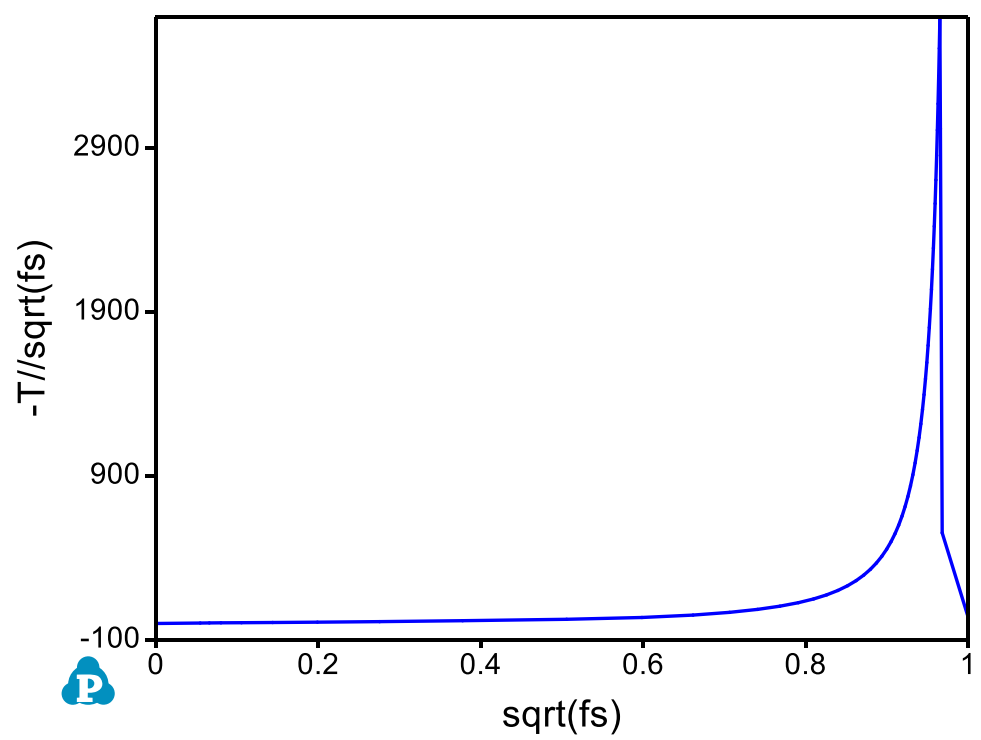
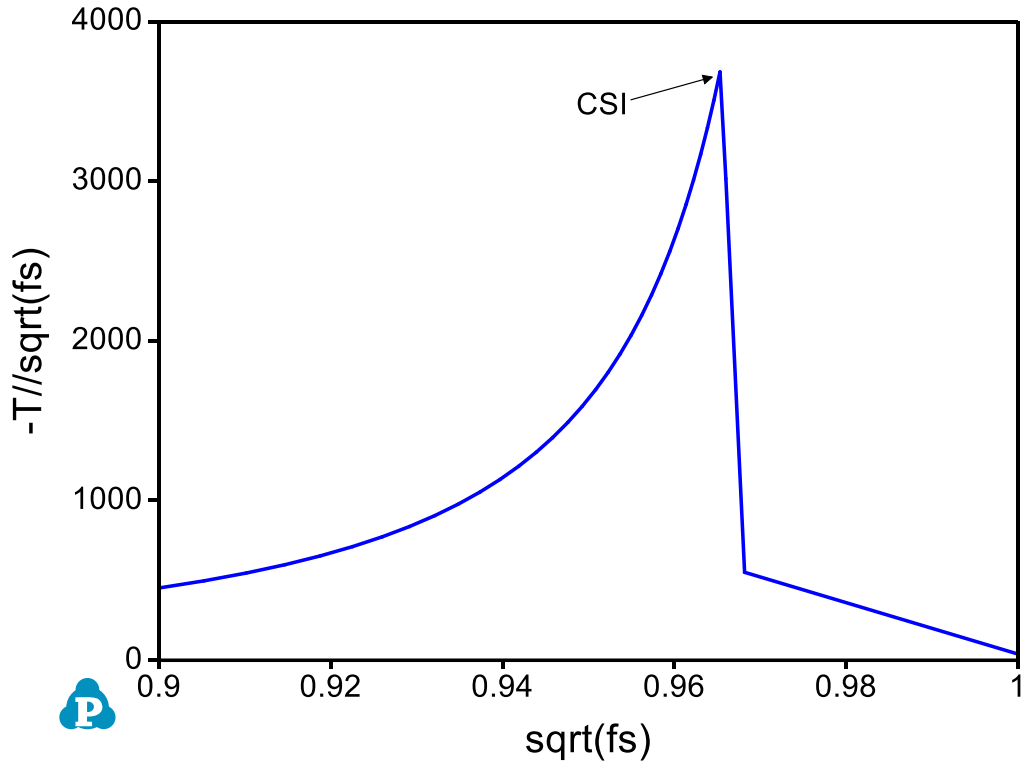

Figure 5.2.6: Extra plot specified by Extra Graph setting
Figure 5.2.7: Rescale of Figure 5.2.8 showing the maximum point of $-T/\sqrt{fs}$ with $\sqrt{fs} < 0.99$.
- The extra graph specified is plotted automatically as shown in Figure 5.2.6.
- Rescale Figure 5.2.6. as shown in Figure 5.2.7. The hot cracking susceptibility index (CSI) is defined as the maximum value of $-dT/d(f_s)^{1/2}$ with $(f_s)^{1/2} < 0.99$.